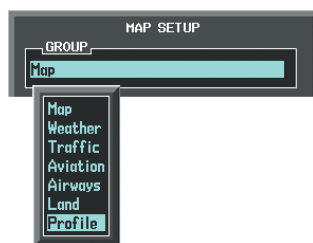

Figure 6-83 Navigation Map Page Setup Menu
- 4) Turn the small **FMS** Knob to select the Profile Group and press the **ENT** Key (Figure 6-83).